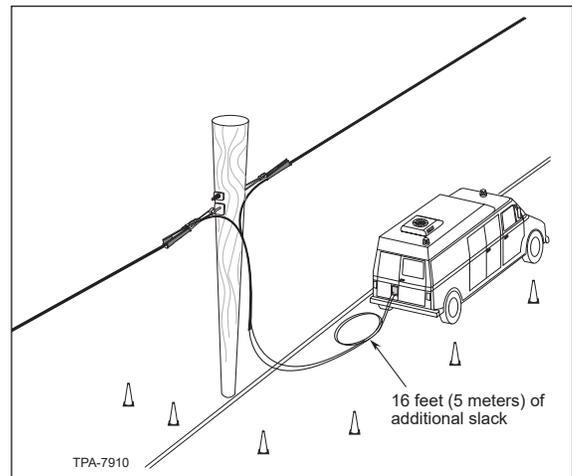

Figure 3 - Aerial PAM
1. Select splice locations during the survey and make plans for closure and cable slack storage. Corning Optical Communications recommends that at splice points, installation crews leave enough cable slack on each cable end to reach the ground and into a splice vehicle, plus 16 feet ( 5 meters) (Figure 3). This cable slack must be taken into account when ordering cable lengths. Consider the accessibility of these splicing locations by splicing vehicles. These locations should not fall in sites where access is inconvenient or hazardous.